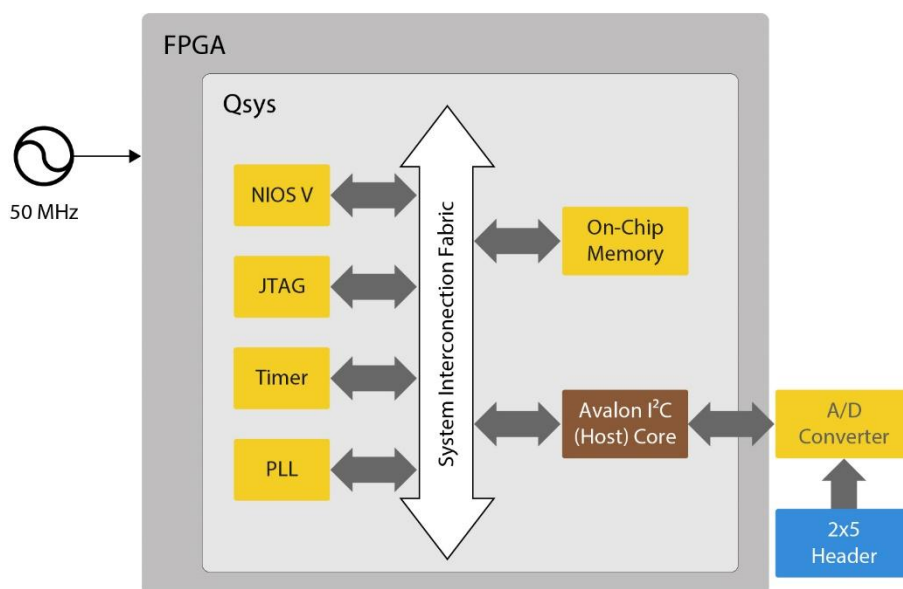

Figure 4-11 Block diagram of ADC reading
5. You can also run **stp1.stp** to display the converted values of all ADC channels in the Quartus Signal Tap Analyzer., as shown in **Figure 4-11**.